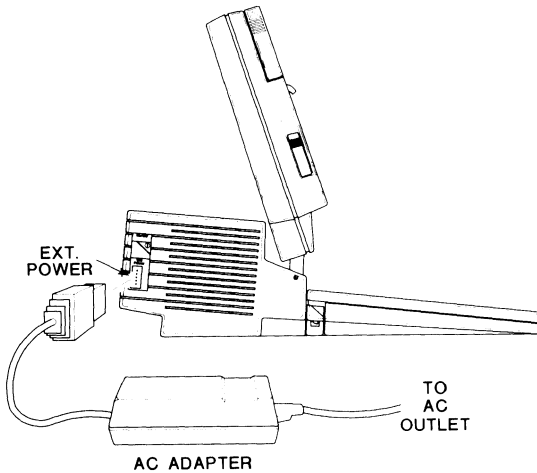

Figure 2-1. AC Adapter Connection
3. Locate the computer power cord and AC adapter. Plug the appropriate end of the cord into the connector on the AC adapter and then connect the adapter to the computer, as shown in Figure 2-1.